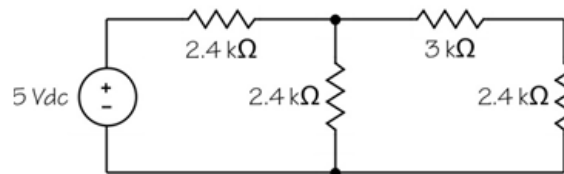

Figure 1: KVL and KCL Circuit
1. Use a combination of Ohm's law and Kirchhoff's voltage and current laws to find all of the voltages and currents in the circuit in Figure 1 and create a power table to confirm that it obeys the law of conservation of energy.